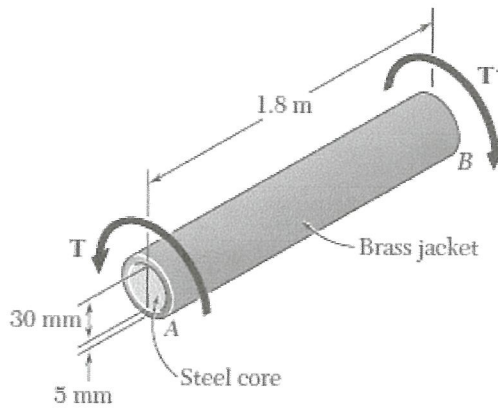

Figure Q4
- Q4** Figure Q4 shows a composite shaft consists of a 5 mm thick brass jacket ($G = 39 \text{ GPa}$) bonded to a 30 mm diameter steel core ($G = 77 \text{ GPa}$). Knowing that the shaft is subjected to 565 Nm torques,